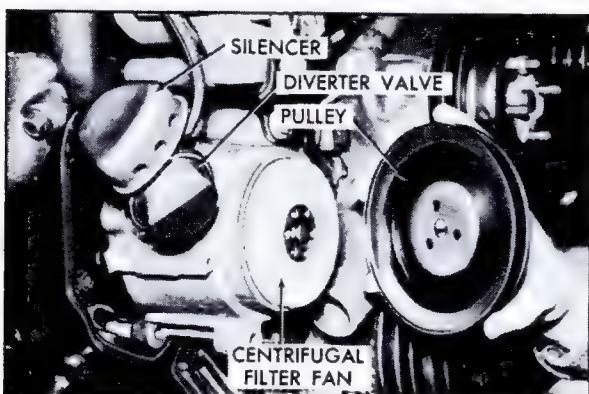

Fig. 6-100 A.I.R. Pump
a. Air Pump (Fig. 6-100)
e. Diverter Valve (Fig. 6-100)
106. Silencer (Fig. 6-100)
107. Diverter Valve and Silencer Assembly (Fig. 6-100)
108. Centrifugal Filter Fan (Fig. 6-100)
2. Remove three screws and remove pump pulley, Fig. 6-100.